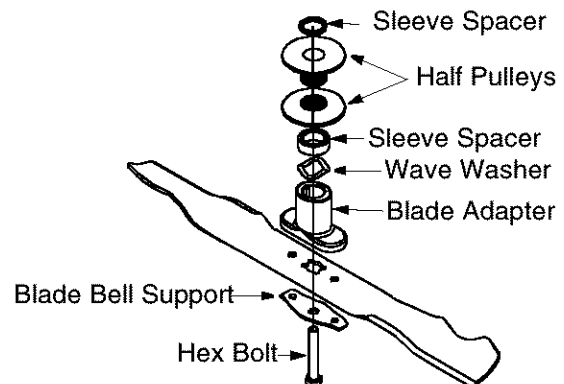

Figure 14
- Remove the bolt and the bell support that hold the blade-pulley assembly to the engine crankshaft. See Figure 14. Remove the assembly from the crankshaft.
NOTE: Make sure the parts above the blade adapter are assembled as shown in Figure 14 ..
- Remove the two shoulder screws which secure the front drive cover to the mower deck. See Figure 14.
- Remove the idler and accompanying hardware from the idler bracket using 7/16" wrench and socket. See Figure 14.
- Remove the belt from the transmission pulley as shown in Figure 14.